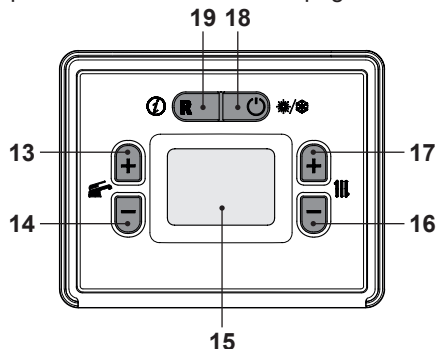

Fig. 8.17
- By using keys 16 or 17 (Fig. 8.17) it is possible to modify the value of parameter A52:
- With the value flashing, pressing key 18 (Fig. 8.17) will confirm the value entered and activate the function.
- From the parameter list, pressing key 18 (Fig. 8.17) will exit the “programming mode.”